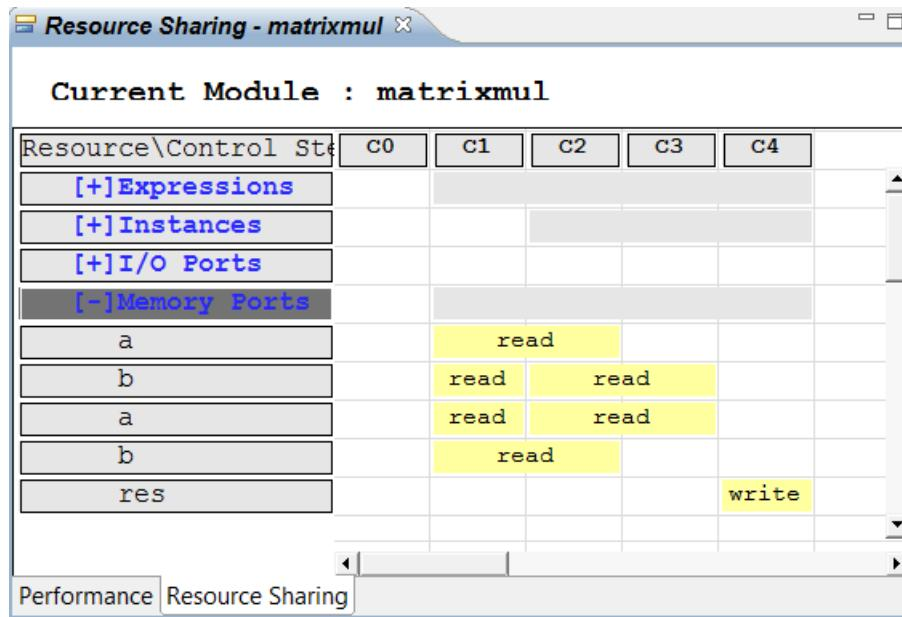

Figure 153 Matrixmul Pipeline Col Resource Sharing View
10. Expand the memories to see the view shown in Figure 153.
In Figure 153 the 2 cycles read operations in state C1 overlap with those starting in state C2 and so only a single cycle is visible; however, it is clear that this resource is used in multiple states.